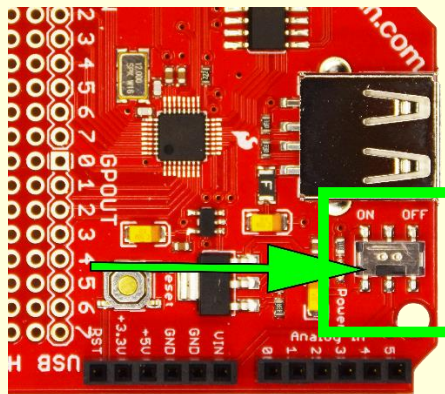

Figure 4-15. Location of the on/off switch of the SparkFun USB Host Shield.
4. Make sure that the **on/off** switch of the SparkFun USB Host shield is set to the “**on**” position as shown in Figure 4-15.